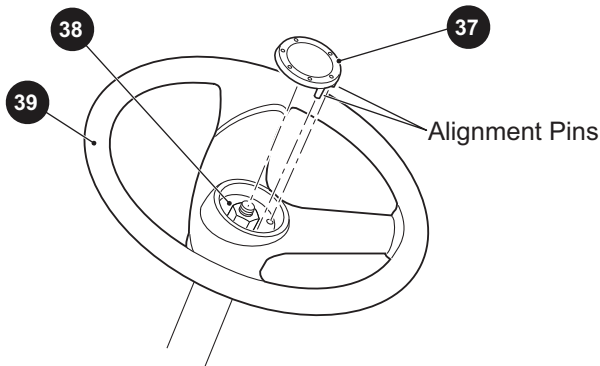

Fig. 9 Steering Wheel Cover Removal
1. Insert a flat screwdriver under the edge of the steering wheel cover (37) and pry it from the steering wheel (39) (Ref. Fig. 9).
2. Loosen the lock nut (38) two to three turns (Ref. Fig. 9) until it is slightly above the end of the steering shaft. DO NOT completely remove the nut at this time.
9. Align the pins on the steering wheel cover (37) with the holes in the steering wheel (Ref. Fig. 9).